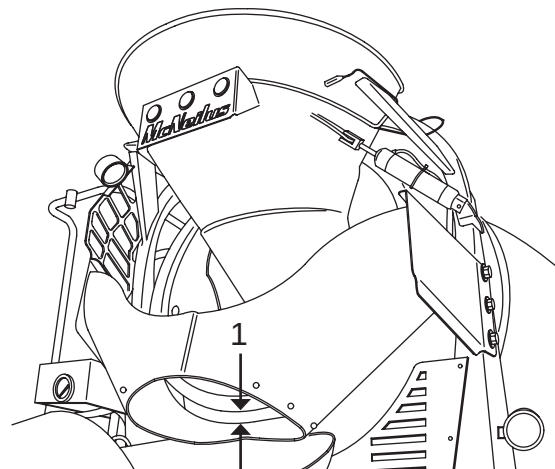

Figure 117
5. Check the discharge hopper-to-drip ring clearance (Figure 117, Item 1). Clearance should be 2 inches (51 mm) between the discharge hopper face and the drip ring, and no more than 1 inch (25 mm) radially around the drip ring.